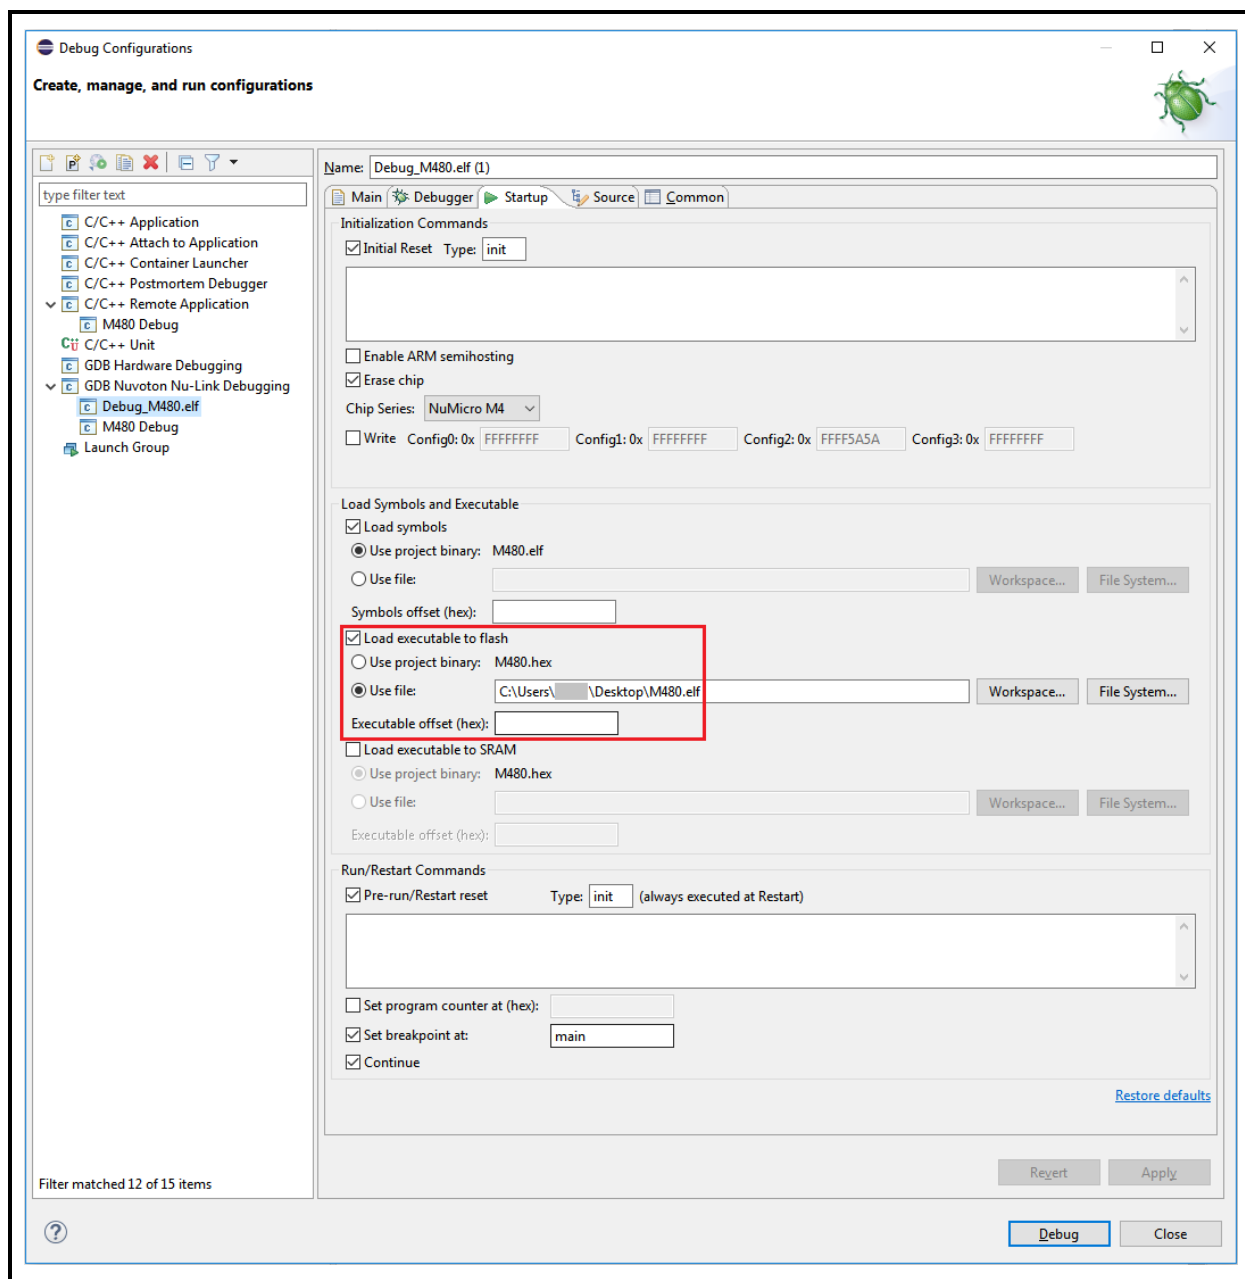

Figure 3-30 Choosing the ELF File to Download
5. Choose the ELF file to download in the debug configuration (referring to Figure 3-30).